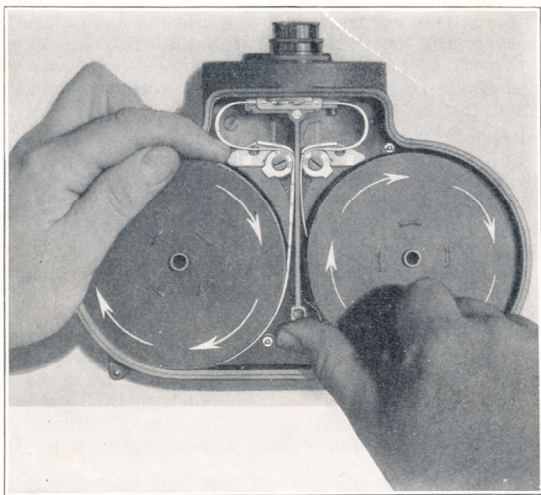

Fig. No. 3
3. Insert paper leader in the hub slot of the take-up spool, and put it on the take-up spindle (122) (it can only go one way—square hole first with gate open). Take up the slack slowly by turning spool to the right as shown by the arrows on spool in figure No. 3. This operation will also determine whether or not the paper leader has been properly fastened to the hub. Close the film gate by pushing gate arm (171) with the right thumb. In performing this operation, see that perforations are in proper engagement with each of the sprockets, also the shuttle teeth. See figure No. 3 showing particularly the relative size of the loops which must be maintained for good results. After closing the gate count the film perforations visible in the loops. There should be six in each, the lower loop appearing a trifle longer than the upper.